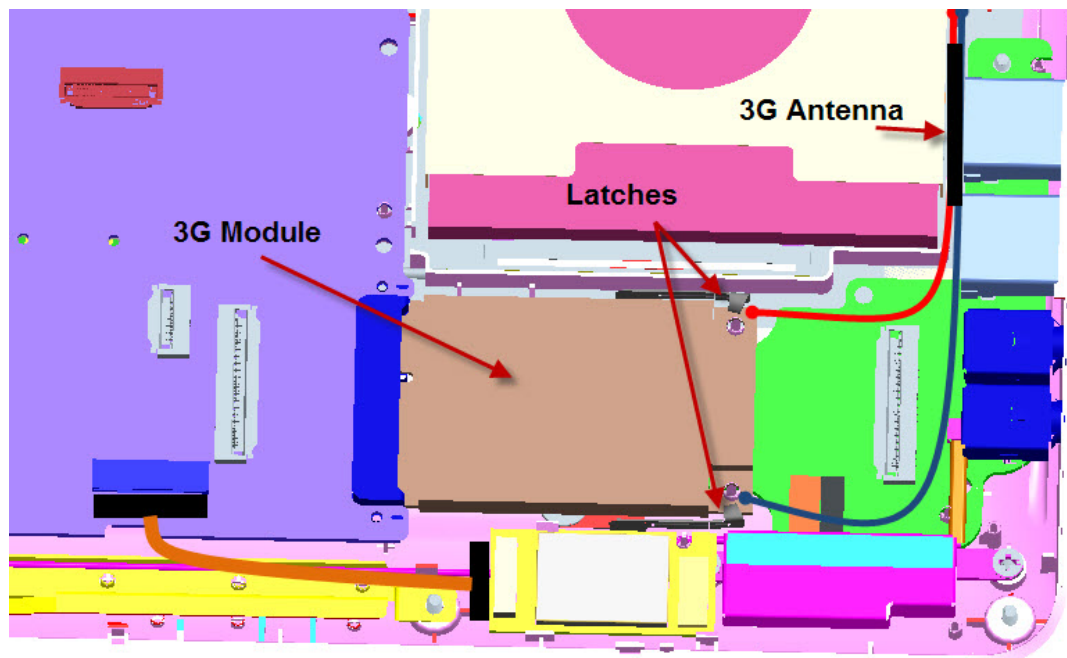

Figure 4-7-1 Remove a 3G module card
The following describes the procedure for removing a 3G module card (See Figure 4-7-1).
11. Disconnect the **wireless LAN antenna** cable and 3G antenna cable from the connectors on the cards. (See Figure 4-6-1 and Figure 4-7-1)